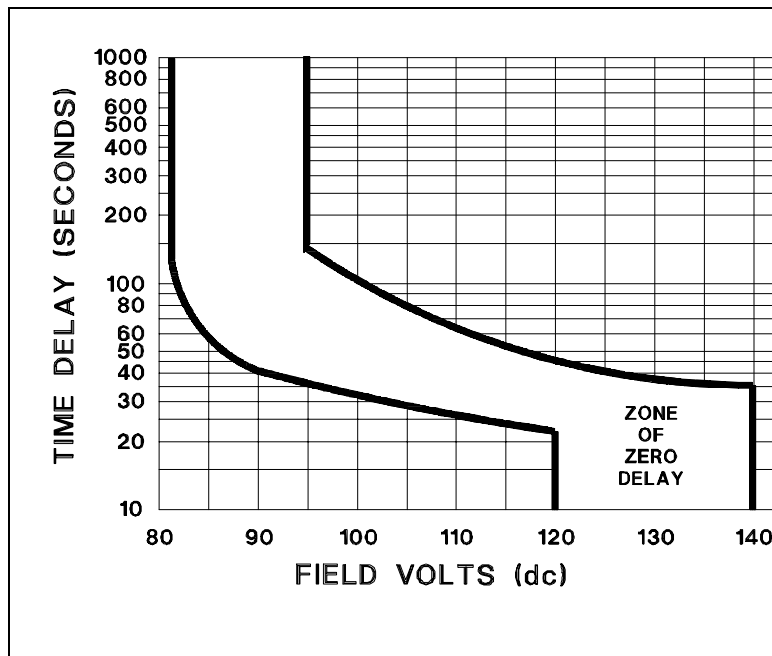

Figure 1-2. Typical Inverse Time Delay Characteristic Curves.
- a. Refer to Figure 1-2. If the exciter field voltage exceeds 95 Vdc, the regulator automatically removes the field current after a time delay. The time delay is inversely proportional to the magnitude of the detected overvoltage condition. At approximately 140 Vdc, the field voltage is removed instantaneously. Overexcitation shutdown will not operate below 80 Vdc.
- b. Upon detection of overexcitation and the resulting field voltage shutdown, the regulator will not reset or return to an operational condition until the generator output drops to less than 6 Vac for ten (10) seconds minimum.